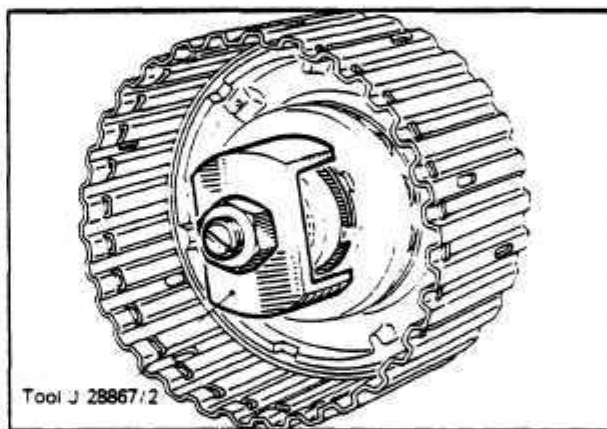

Fig. 56 C-1 PISTON REMOVAL
4. Compress the piston return springs using the special tool J 28867/2 (part of the A/T Tool Kit) and remove the lock ring securing the spring retaining plate. *Fig. 56*
5. Compress the retaining plate using the special tool and install the lock ring. Make sure that the three (3) lugs on the retaining plate are holding the lock ring in position when the tool is removed. *Fig. 56*